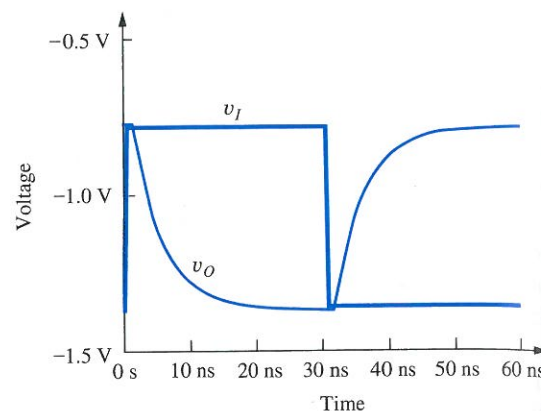

Figure P6.13
- 6.13. The graph in Fig. P6.13 gives the results of a SPICE simulation of an inverter. What are V_H and V_L for this gate?
- 6.22. The graph in Fig. P6.13 gives the results of a SPICE simulation of an inverter. (a) What are V_H and V_L for this gate? (b) What are the rise and fall times for v_I and v_O ? (c) What are the values of τ_{PHL} and τ_{PLH} ? (d) What is the average propagation delay for this gate?